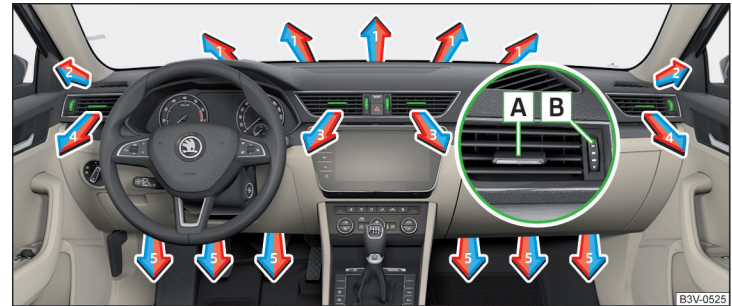
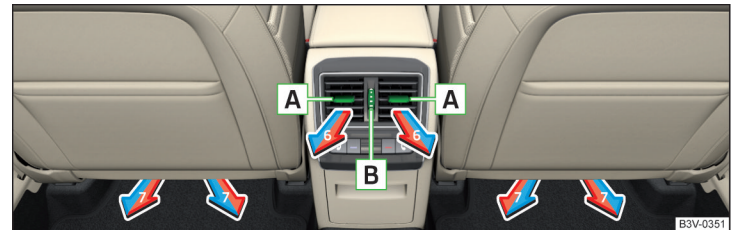

Fig. 172 Air vents at the front
Fig. 173 Air vents at the rear
The direction of airflow can be adjusted using the air outlet vents **3, 4** » Fig. 172 and **6** » Fig. 173, and the vents can be opened and closed individually.
The setting of the airflow direction is carried out by moving the adjustment element **A** » Fig. 172 or » Fig. 173 in the desired direction.
► To **open**, turn the controller **B** » Fig. 172 or » Fig. 173 upwards.
► To **close**, turn the controller **B** » Fig. 172 or » Fig. 173 downwards.
Set the direction of the air outlet	Air vents » Fig. 172 and » Fig. 173